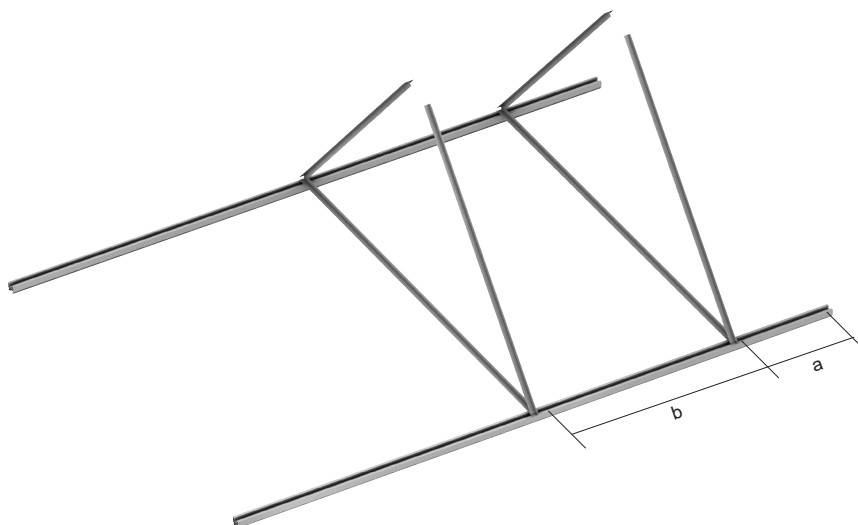

Figure 5-5: Installation of the Second Flat Roof Mounting Bracket
4. Refer to Figure 5-5. Place the next flat roof mounting bracket on the mounting rail and fix using the interlocking bolts. Do not tighten the bolts too tightly, as final adjustment may be required. For dimension "b", refer to Section 3.2.